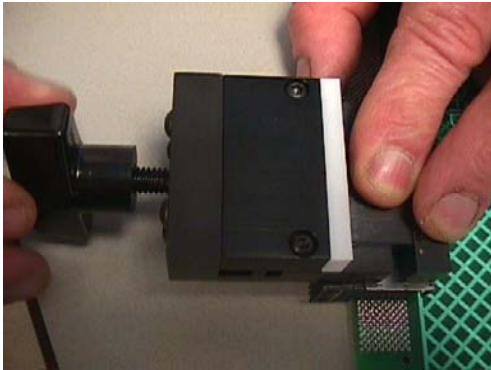

Figure 4
- 4.1 The first step is to remove the stiffener as described in Paragraph 3.0 (see Figure 4).